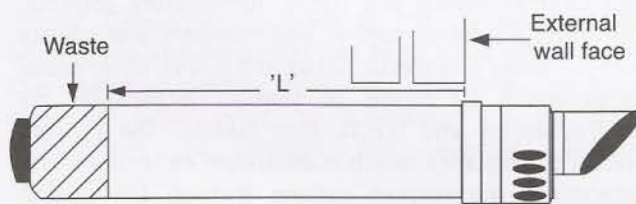

Figure 15
10.8 On installing the flue, determine the required length of the outer air duct by measuring the distance 'L' (*figure 15*) from the face of the external wall to the back of boiler's elbow connecting collar. The measurement for the inner flue duct will be 'L' + 20mm